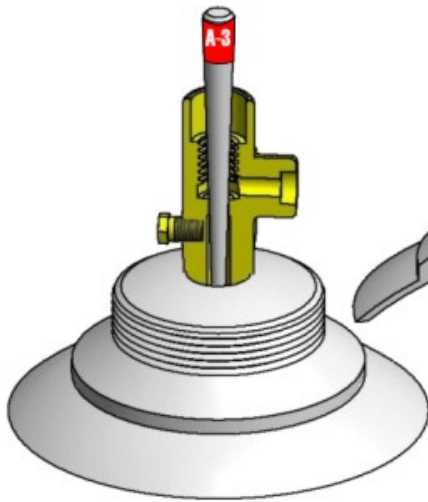

Figure 3.4
3.4 LEAK: VALVE STEM ASSEMBLY BLOWN OUT (FIGURE 3.4)